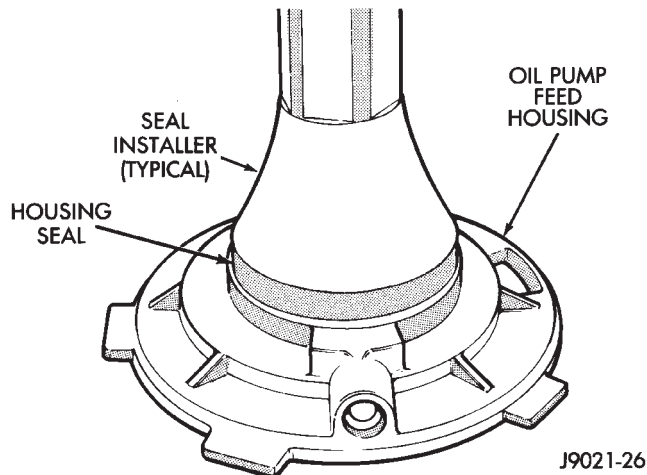

Fig. 57 Installing Oil Pump Feed Housing Seal
(40) Install new seal in oil pump feed housing (Fig. 57).